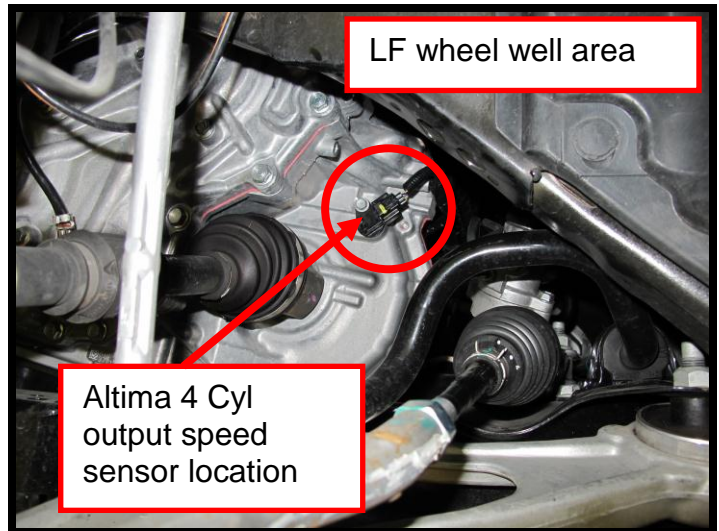

Figure 1
3. Look into driver side (LF) wheel well to locate the output speed sensor, see Figures 1 & 2.